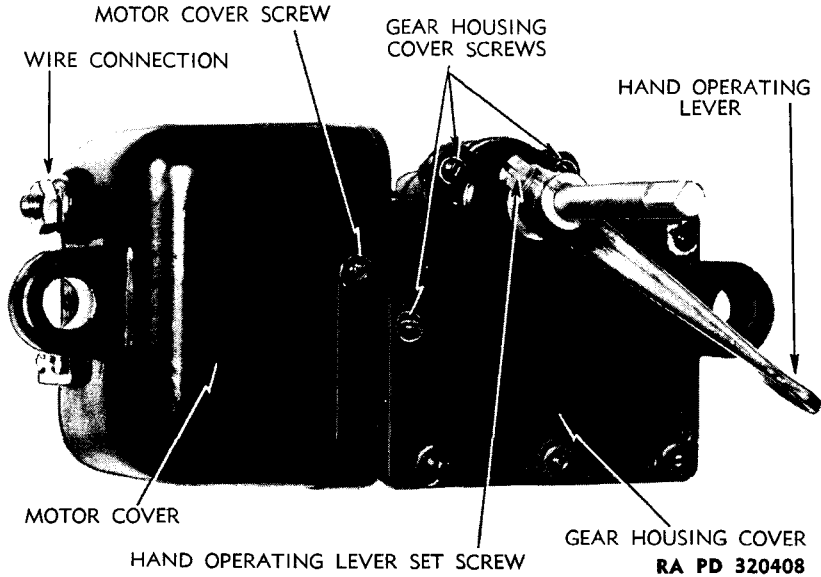

Figure 4 — Wiper Motor
a. **Remove Covers** (fig. 4). Remove hand-operating lever by turning squarehead screw counterclockwise and sliding lever from wiper blade arm shaft. Remove nut and lock washer from wire connecting terminal. Remove two screws from sides of motor cover and remove cover. Remove seven screws from gear housing cover, and pull cover and gaskets from shaft.